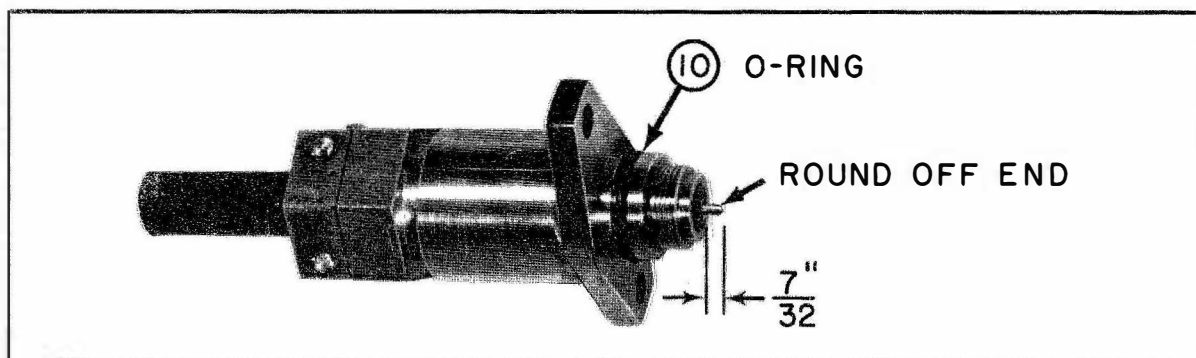

Figure 5-13d. Installing O-Ring
Step 5. - Lubricate O-ring, piece 10, with insulating compound and install it in the groove of the fitting body. Cut the exposed center conductor to a length of 0.219 inch. Using a fine file, round off the end of the center conductor (see figure 5-13d). Solder the contact pin, piece 12, onto the center conductor of the cable. Remove any excess solder from the contact pin and screw the connector, piece 13, into the fitting body (see figure 5-15e).